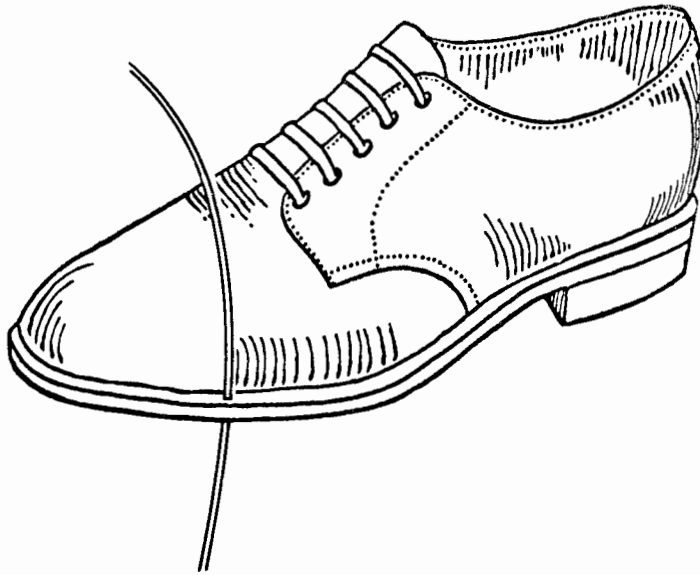

Fig. 156. Thread passed through hole and pulled through to center of thread.
3. Pass the thread through the hole, and pull it through to the center of the thread (Fig. 156).